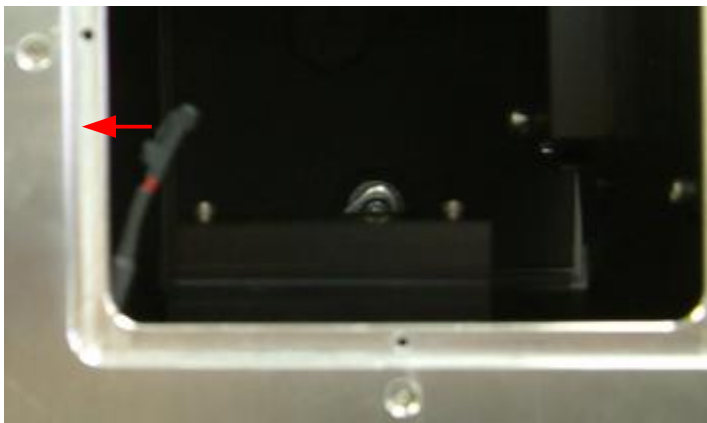

Figure 8 - Push the disconnected stirrer cable to the side of the sample compartment
14. Push the wire connected to EasyLife back to the side of the sample compartment just behind the EasyLife bottom plate (see figure 8). Do **NOT** push the wire all the way back through its hole in the side of the sample compartment – then the EasyLife would have to be disassembled to retrieve it!
30. Gently pull the stirrer cable and connector from the corner of the sample compartment until it stops (see figure 8). Do **NOT** pull any more as this may damage electronics inside the EasyLife box.